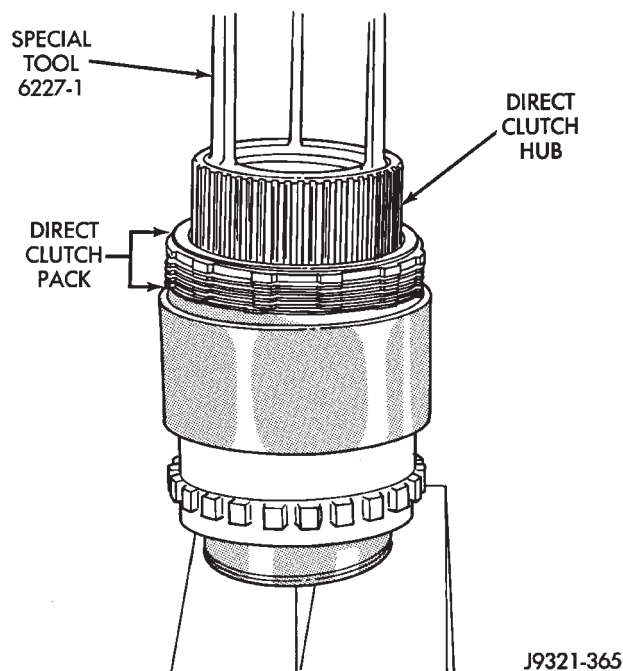

Fig. 209 Direct Clutch Pack Removal
(6) Release press load slowly and completely (Fig. 209).
(7) Remove Special Tool 6227-1. Then remove clutch pack from hub (Fig. 209).